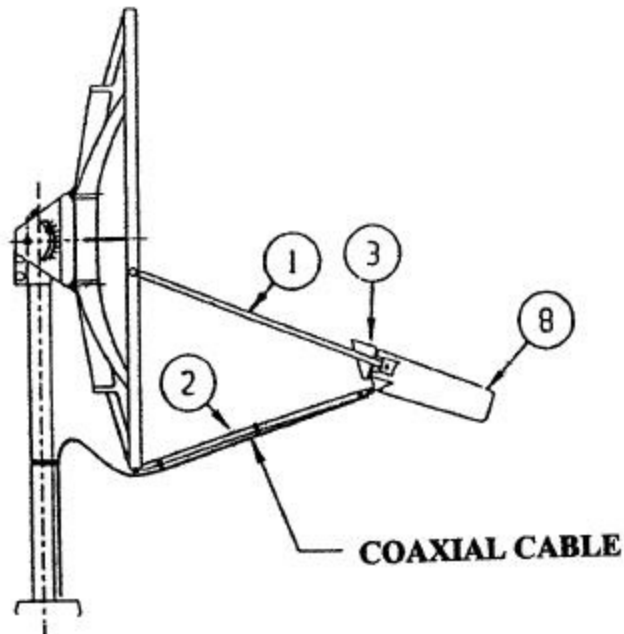

Figure 2.2-1
- Step 1:** Loosely attach the feed rods (items# 1,2) to the reflector with the hardware shown for your reflector. See Figure 2.2-1. Note that the two long rods attach to the sides of the reflector and the shorter rod attaches to the bottom of the reflector. The bent end of each rod attaches to the reflector.